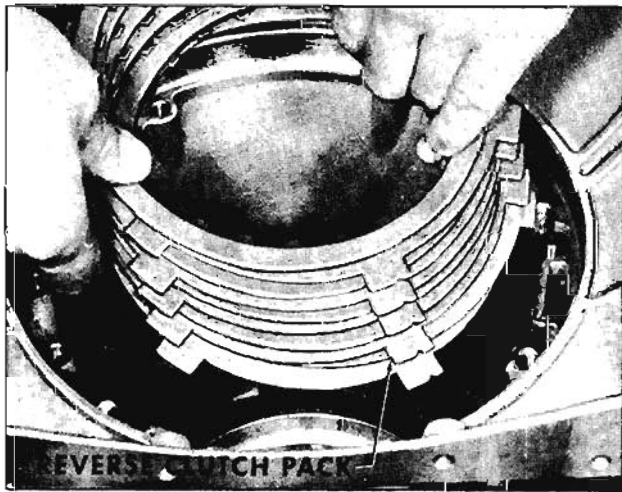

Fig. 6-422 Installing Reverse Clutch Pack
6. Align notches on the steel driven plates. Install the steel driven plates and lined drive plates alternately, beginning with a steel driven plate. The notched lug on each driven plate goes in the five o'clock groove in case. (Fig. 6-422)